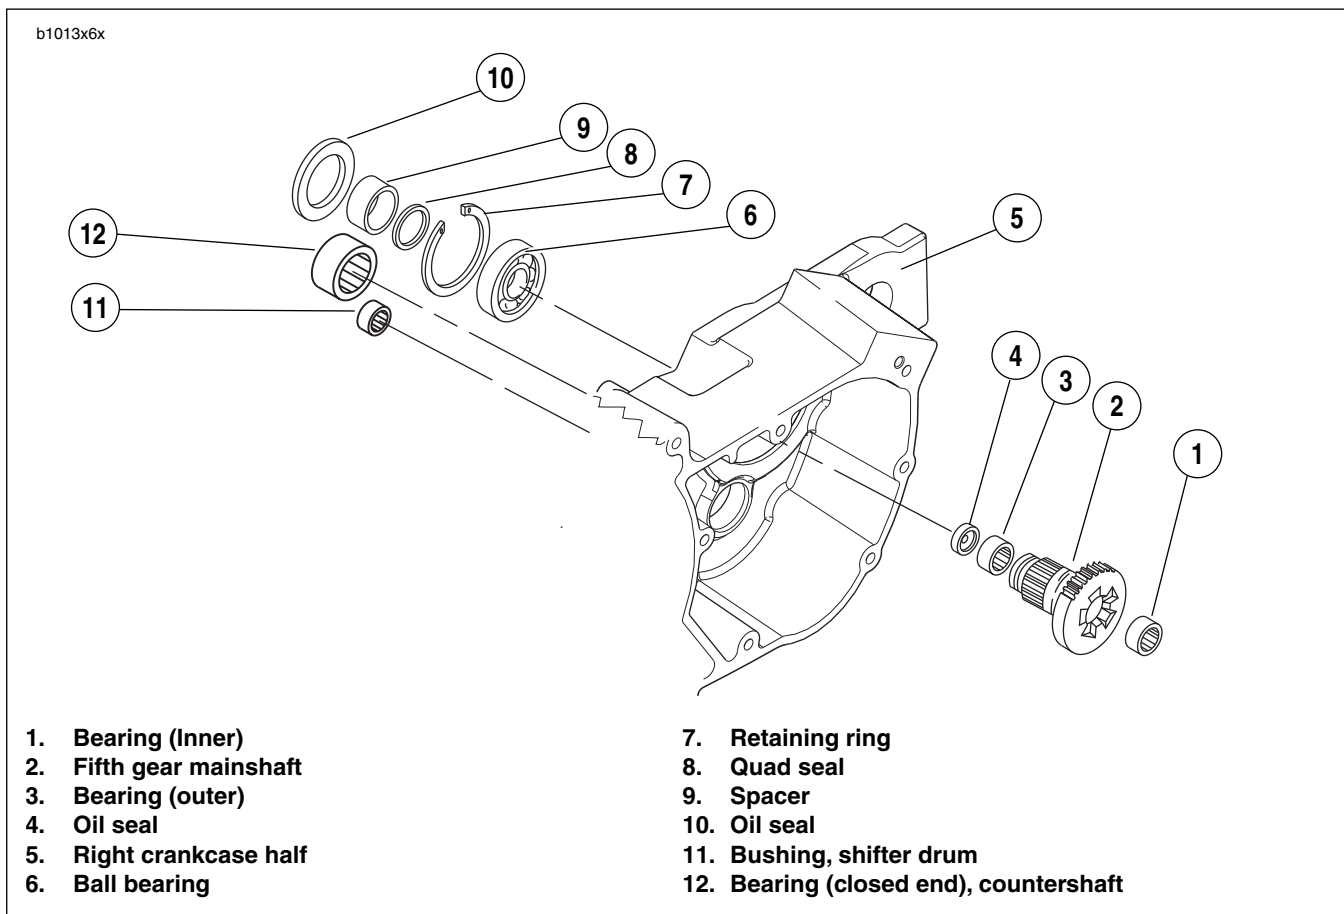

Figure 6-77. Transmission Assembly Right Crankcase Half
5. See Figure 6-77. Place **new** quad ring over threaded end of fifth gear, and position next to the gear taper. Install spacer over threaded end of fifth gear with chamfered end toward quad ring. Slide spacer up against bearing.
See Figure 6-77. Refer to Transmission assembly right crankcase half, for location of items discussed on this page.
2. See Figure 6-77. Remove main drive 5th gear. Use MAIN DRIVE GEAR REMOVER AND INSTALLER (Part No. HD-35316A). See 6.11 MAIN DRIVE GEAR.
2. See Figure 6-77. From the outside of the case place the needle bearing open end first next to the bearing bore. Hold the driver squarely against the closed end of the bearing and tap the bearing into place. The bearing is properly positioned when it is driven inward flush or 0.030 in. (0.762 mm) below the outside surface of the case.
4. See Figure 6-77. The shifter drum bushing (11) is a press fit in the right crankcase half. Inspect the bushing against the corresponding end of the shifter drum for proper fit and wear.